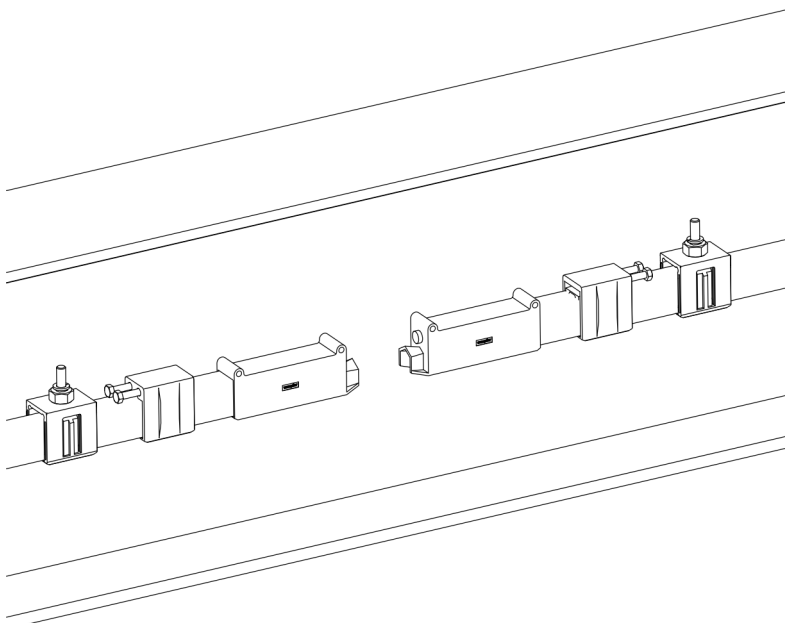

Fig. 94: The hanger clamp, anchor clamp and end cap are mounted on both rail ends
- Slide the hanger clamp and anchor clamp onto the second end of the rail and mount the end cap (see Fig. 94).